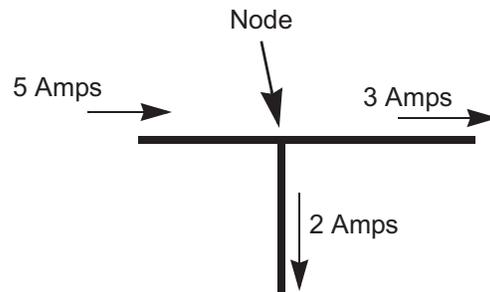

Figure 7.16
- The sum of the currents coming out of the other two wires must equal 5 amps. That could be 3 amps in one wire and 2 amps in the other or it could be 2.5 amps in each wire, but the total coming out must be the same as the current going in. See Figure 7.16.